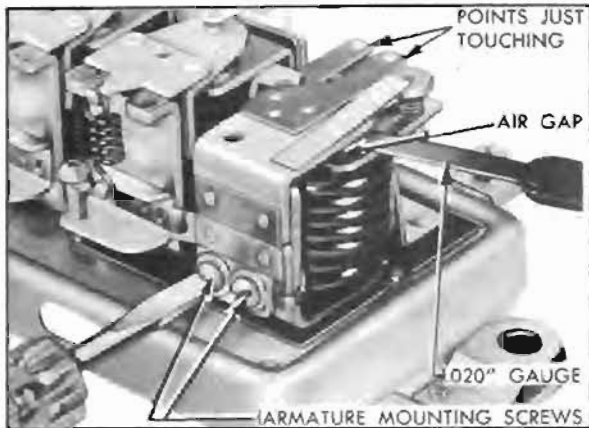

Figure 10-25—Adjustment of Cutout Relay Air Gap
1. Place finger on armature directly above core and move armature down until contact points just close. If both sets of points do not close simultaneously, bend spring fingers so that they do. *With points just closed*, measure air gap between armature and center of core; gap should be .020", measured with feeler gauge. Adjust air gap, if necessary, by loosening armature mounting screws and raising or lowering armature as required. Tighten screws securely and recheck air gap. See figure 10-25.